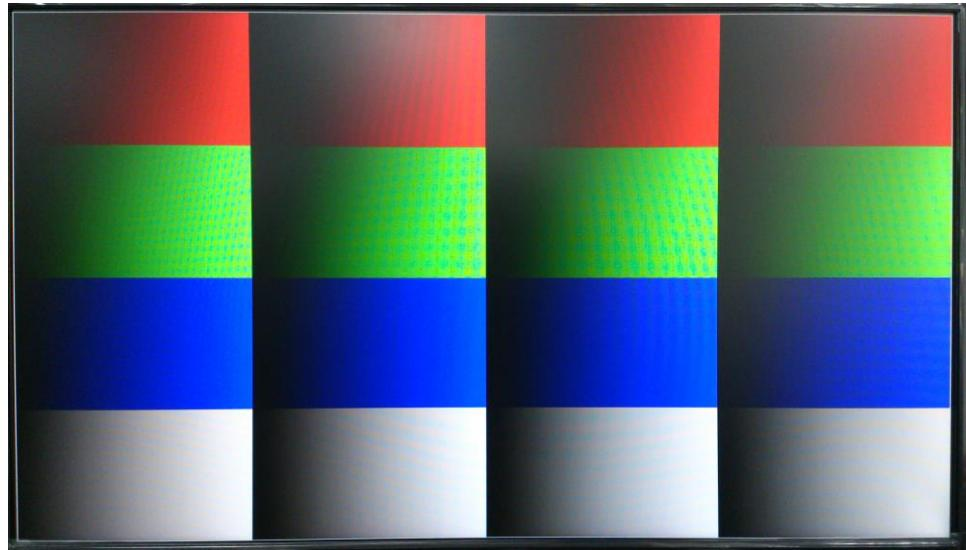

Figure 6-10 The Video pattern used in the HDMI TX Demonstration
- Wait for a few seconds for the LCD monitor to power up itself. And you should see a pre-defined video pattern shown on the monitor, as shown in Figure 6-10.
Pressing the on-board push-button KEY1 can switch the current display mode alternatively between the built-in formats listed in **Table 6-2**. The pattern displayed will look similar to the one shown in **Figure 6-10**